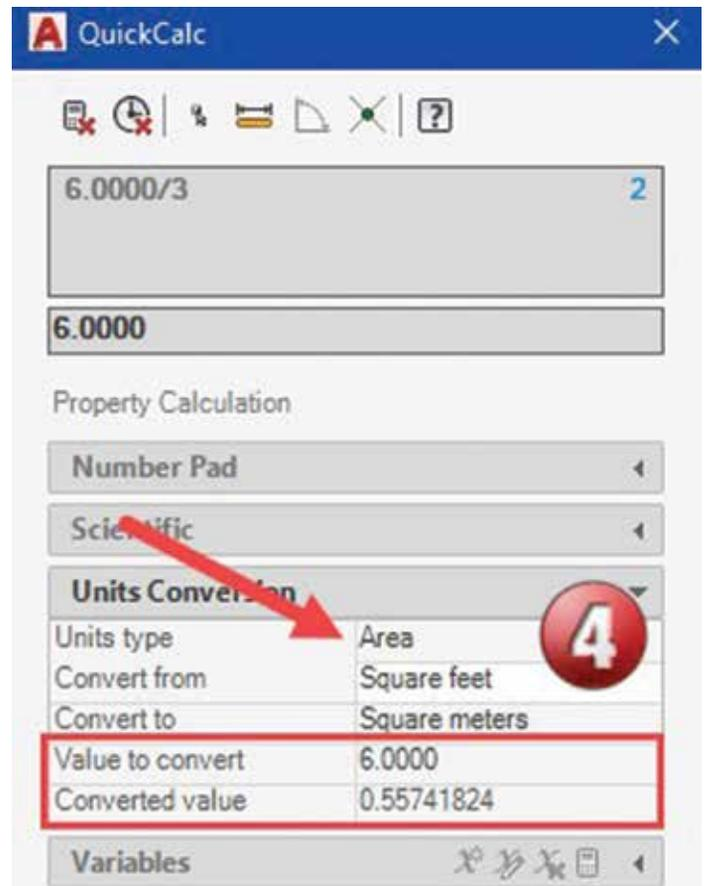

Figure 10
4. Under the Units Conversion section, change the Units type to Area. Change the “Convert from” and “Convert to” sections to your desired outcome and the converted value will be shown for you to use in your calculations (Figure 10).